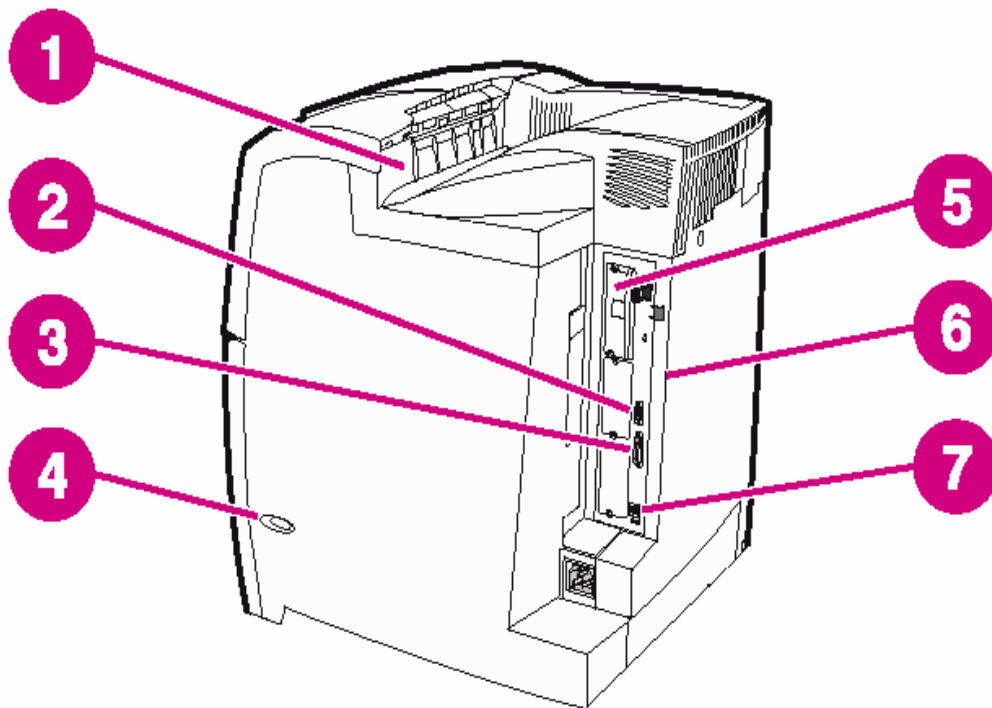

Figure 78 : Graphical printer HP4650 N rear panel
- ☞ Refer to Figure 78.
The HP4650 N rear panel includes (see Figure 78) :
☞ Refer to Figure 78.